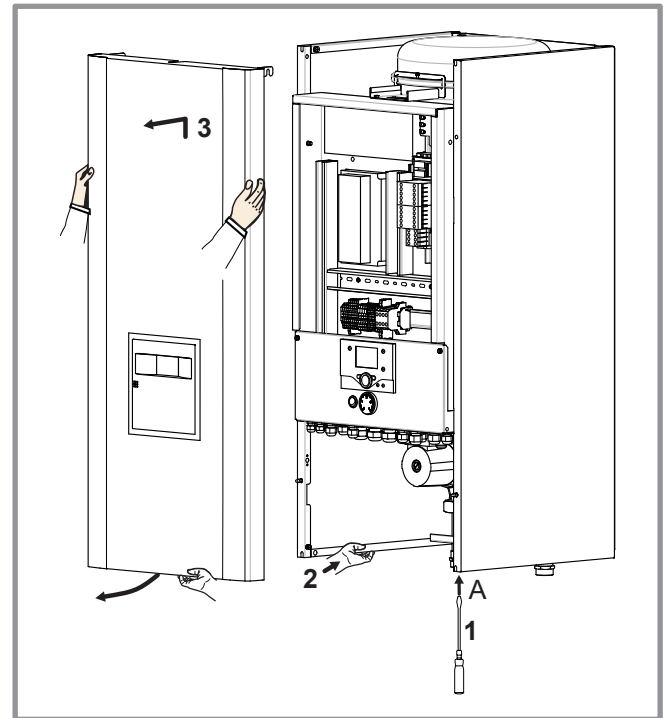

Figure 14 - Removing the front panel
- Remove the front panel (2 screws **A**, figure 14)